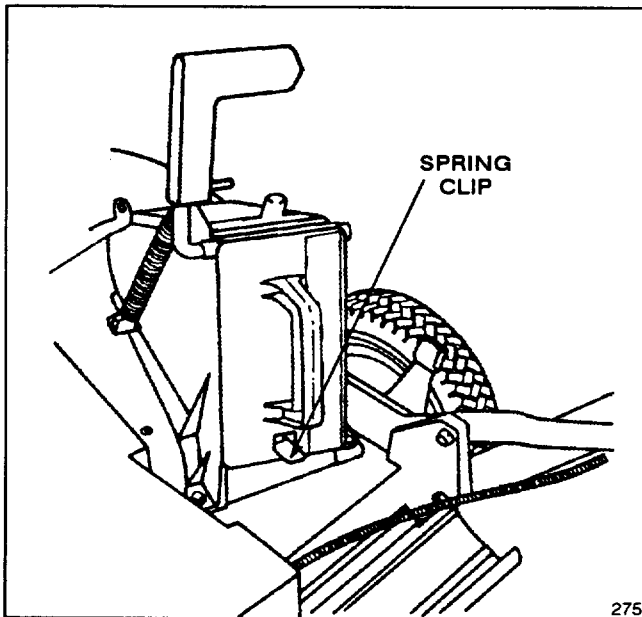

Figure 7
3. Push the plug all the way in until the spring clip on the bottom of the plug clicks into place, locking the plug securely into the discharge tunnel (Fig. 7). Release discharge door handle to lock top of plug.